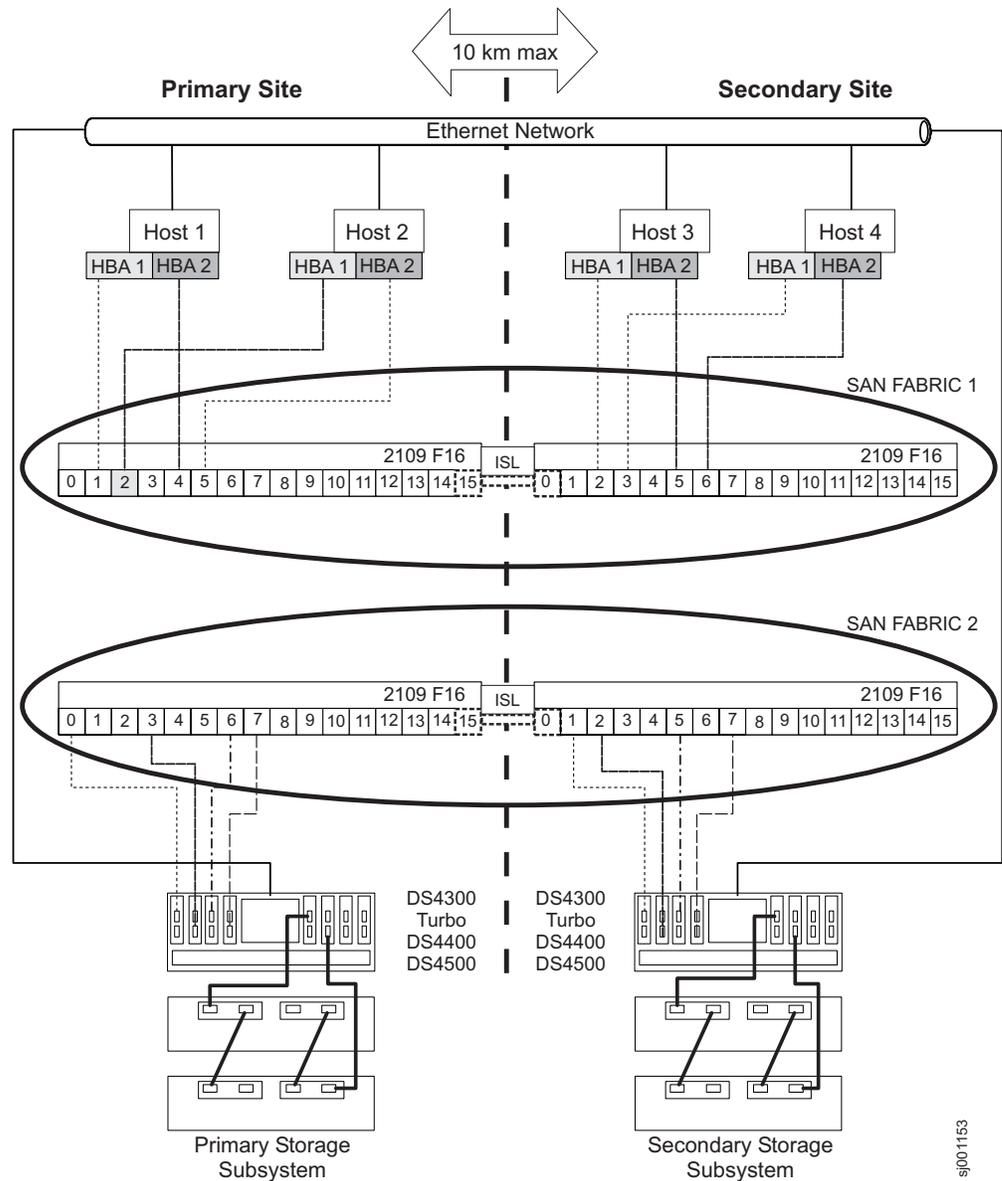

Figure 39. Highest Availability Campus configuration
Figure 39 on page 117 shows the Highest Availability Campus configuration after installation is complete.
Important: The Fibre Channel switches in Figure 39 on page 117 contain 16 ports each, which leaves many unused ports per switch. If you are performing switch zoning using the Fibre Channel host port number, instead of the WWNN of the SAN fabric logged-in ports, do not include Fibre Channel switch ports with no Fibre Channel connections in the zone definition. If you include these unused ports in your zones, unauthorized access to the SAN might result.
Figure 39 on page 117 shows how the four Fibre Channel switches are cabled for this Highest Availability Campus configuration. The zones are configured on the switch to allow one port per zone for a storage subsystem connection, and one HBA port per zone for each host. There are four zones in the following configuration example.
- Refer to Figure 39 on page 117 as you complete the steps in this procedure.